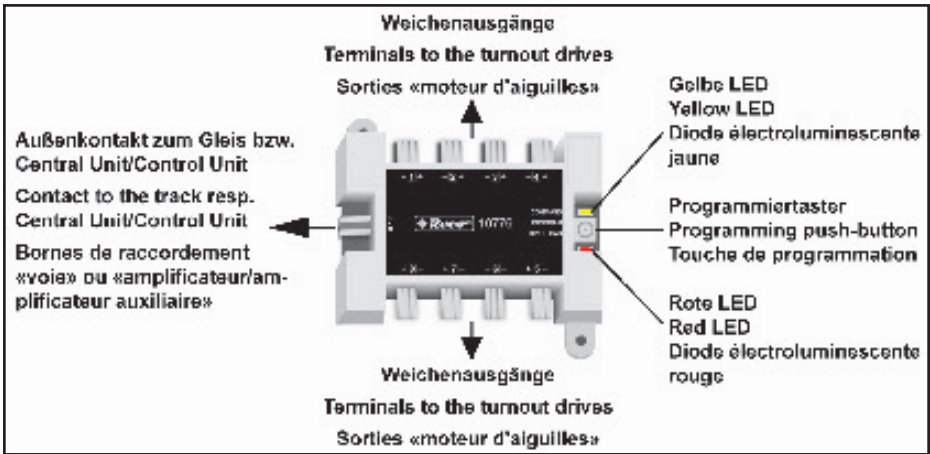

Fig. 1
**For Connecting the module see fig. 1 on page 8**
Voir Fig. 1 page 8